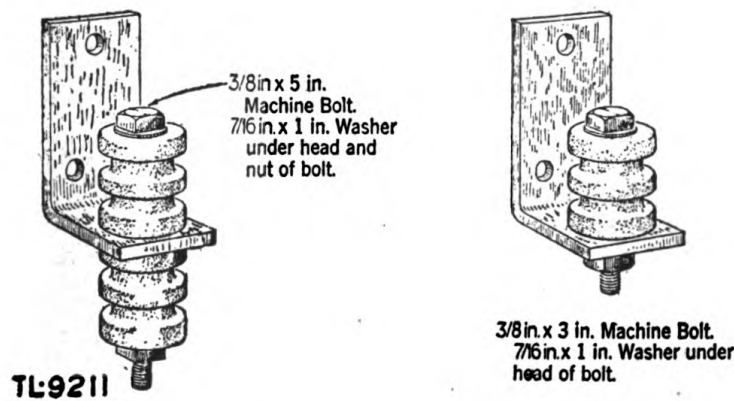

Figure 16. "T" knobs installed on house bracket.
e. **EQUIPPING HOUSE BRACKET WITH "T" KNOBS.** Equip house bracket with "T" knobs as shown in figure 16.